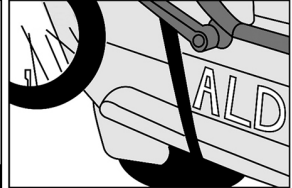

Fig. 8
7. Each inner strap hooks to a location under the vehicle bumper. Clip the hooks to a solid part of the vehicle chassis. (Fig. 8). The lower straps can also be attached to bumper's edge if it's not plastic.